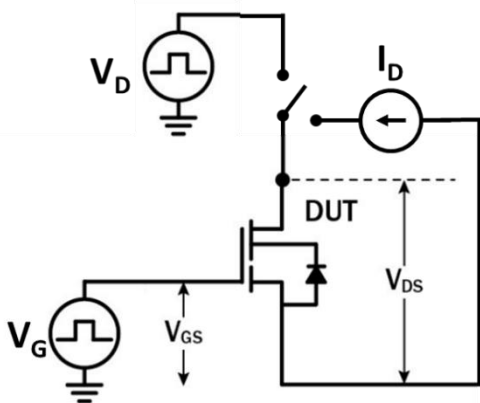

Figure 18. Dynamic  $R_{DS(on)eff}$  Test Circuit
- g. Dynamic RDS(on), 100% tested; see Figures 18 and 19 for test circuit and conditions